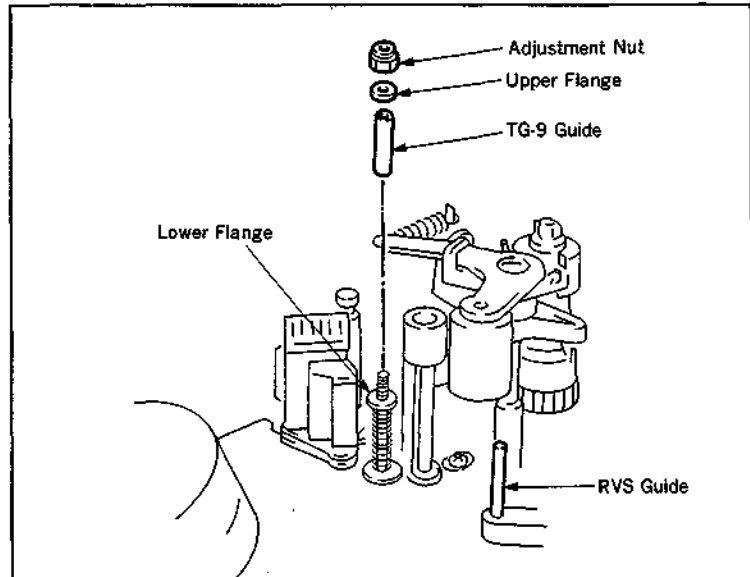

Fig. 1
- (1) Remove the cassette compartment referring to sub-section 4-2.
- (2) Turn the adjustment nut and remove it. (Fig. 1)
- (3) Remove the upper flange and TG-9 guide from shaft. (Fig. 1)
- (3) Remove the adjustment nut, then remove the guide base ass'y and the compression coil spring. (Fig. 1)
- ① Insert the projection on the guide base ass'y into the hole in the RVS arm, then install the guide base ass'y. (Fig. 1)